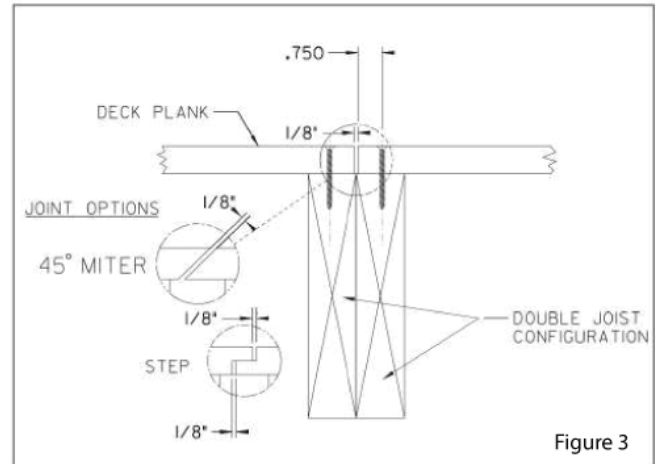

Figure 3
- When butting planks end to end, planks should only butt together over a joist or other proper support. Use a double joist at butt ends. For the best appearance options, miter ends at 45 degrees or step overlap ends of the butt joint. (See Figure 3)